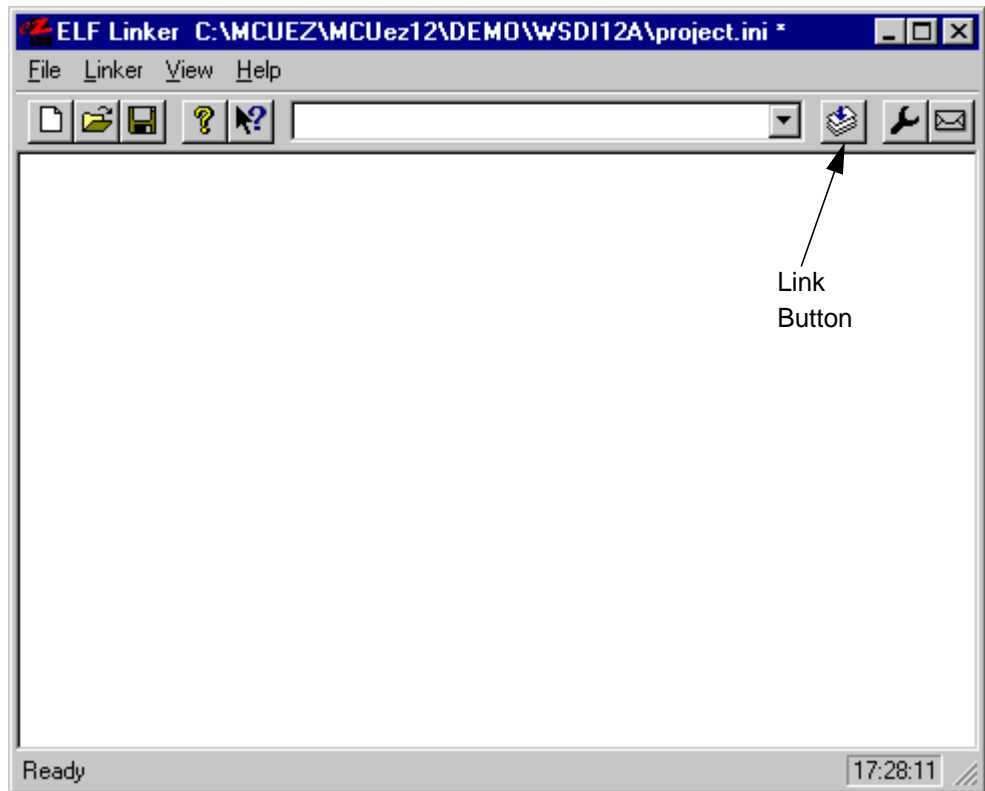

Figure 1-9. Linker Window
4. Click the **eZLink** button in the **MCUez Shell**. The linker is started as shown in **Figure 1-9**.